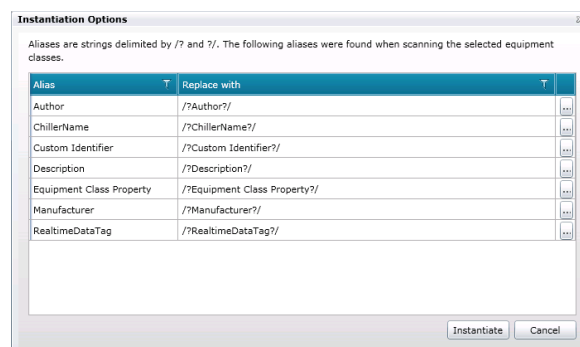

Figure 5 - Defining values for parameters
3. Select that option and Instantiation Options dialog similar to Figure 5 will open up and you can fill the values for your parameters used in the class.